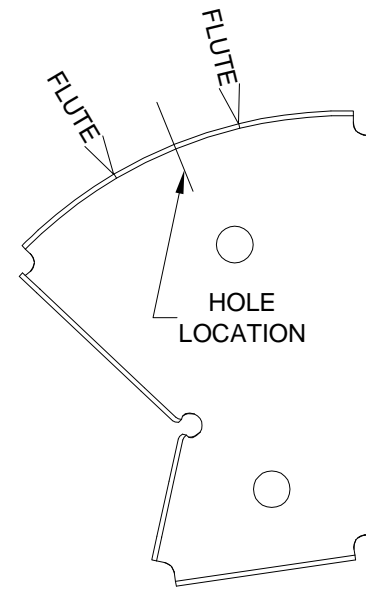

FIGURE 3:
Step 3: Flute the flanges of the A-1204-L & -R Outbd Nose Ribs and A-1210-L & -R Inbd Nose Ribs at the locations shown in Figures 3 and 4.